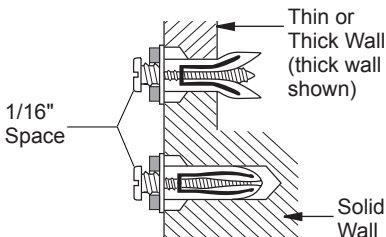

Figure 8 - Tightening Anchors
5. Tighten two screws until 1/16" space (thickness of penny) is between screw heads and wall (see Figure 8).